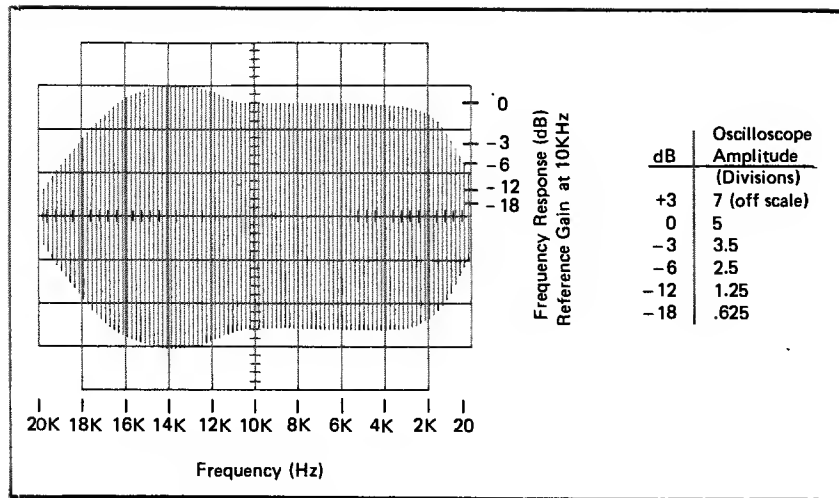
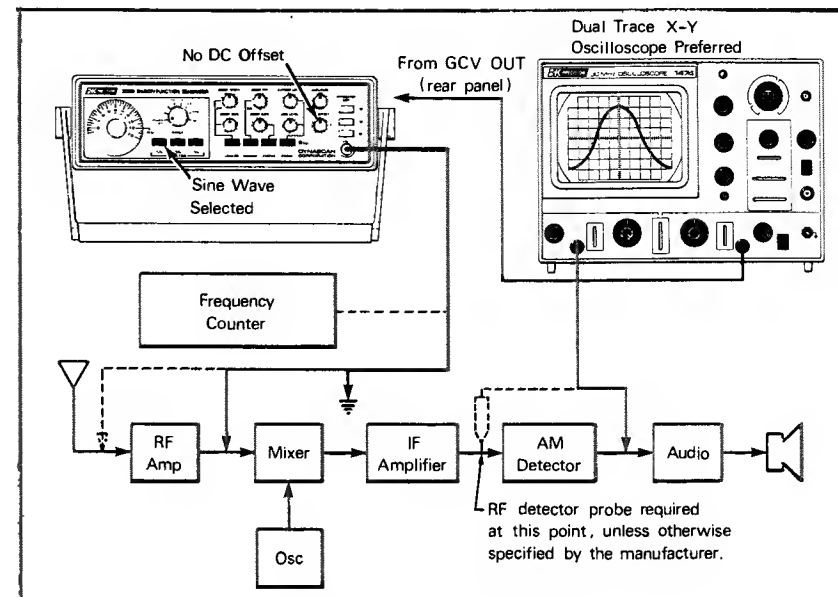

Fig. 14. Typical audio amplifier response display.
Fig. 17. AM receiver alignment.
When using a conventional oscilloscope probe, the display will be an envelope such as shown in Fig. 14. The relative gain or attenuation of all frequencies within the swept band is displayed. The display may be analyzed for acceptable or unacceptable frequency response characteristics. In wideband amplifiers, the objective is usually to maintain a flat frequency response over the widest possible bandwidth. Frequency response displays of filters and coupling networks show the cutoff frequency and the sharpness of the cutoff. The frequency response display is often the basis for alignment of RF circuits (Fig. 17 and 18). The display also may be analyzed to determine the center frequency of bandpass, symmetry of bandpass, bandwidth, gain or signal amplitude, Q, and rejection of adjacent frequencies.
1. Use the test set-up of Fig. 17, which will produce a linear sweep display.